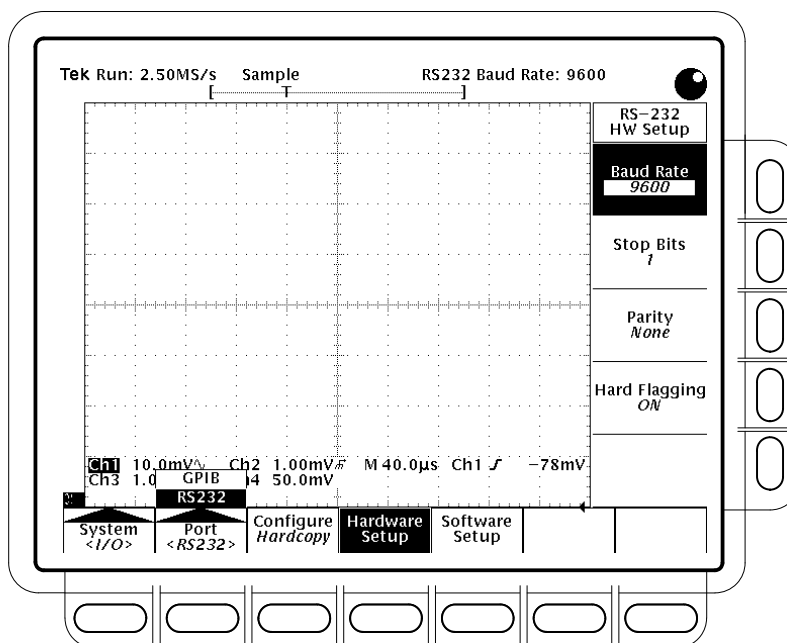

Figure 3–70: Utility Menu — System I/O
Press **SHIFT** → **UTILITY** → **System** (main) → **I/O** (pop-up) → **Configure** (main) → **Hardcopy (Talk Only)** (side). (See Figure 3–70.)
3. Press **SHIFT** → **HARDCOPY MENU** → **Layout** (main) → **Landscape** or **Portrait** (side). (See Figure 3–71.)